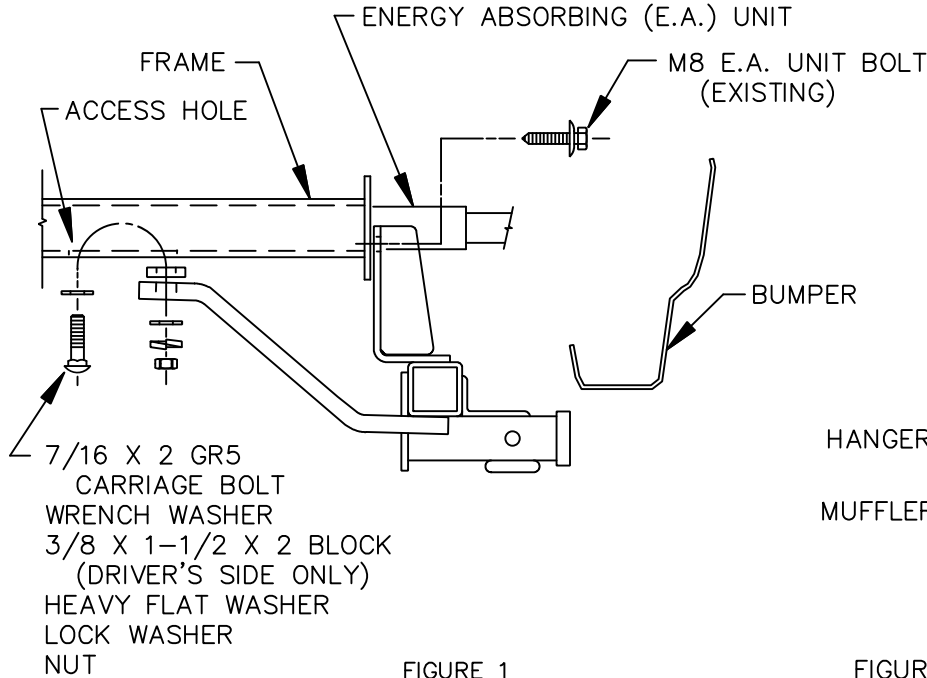

FIGURE 1
1. REMOVE AND SAVE FOUR (4) M8 BOLTS WHICH HOLD E.A. UNIT TO FRAME (TWO BOLTS PER SIDE).
4. POSITION HITCH OVER BOLTS, PLACING 3/8 BLOCK BETWEEN HITCH AND FRAME ON THE DRIVER'S SIDE. INSTALL HEAVY FLAT WASHERS, LOCK WASHERS, AND NUTS AS SHOWN IN FIGURE 1. REPLACE M8 E.A. UNIT BOLTS (REMOVED IN STEP 1).